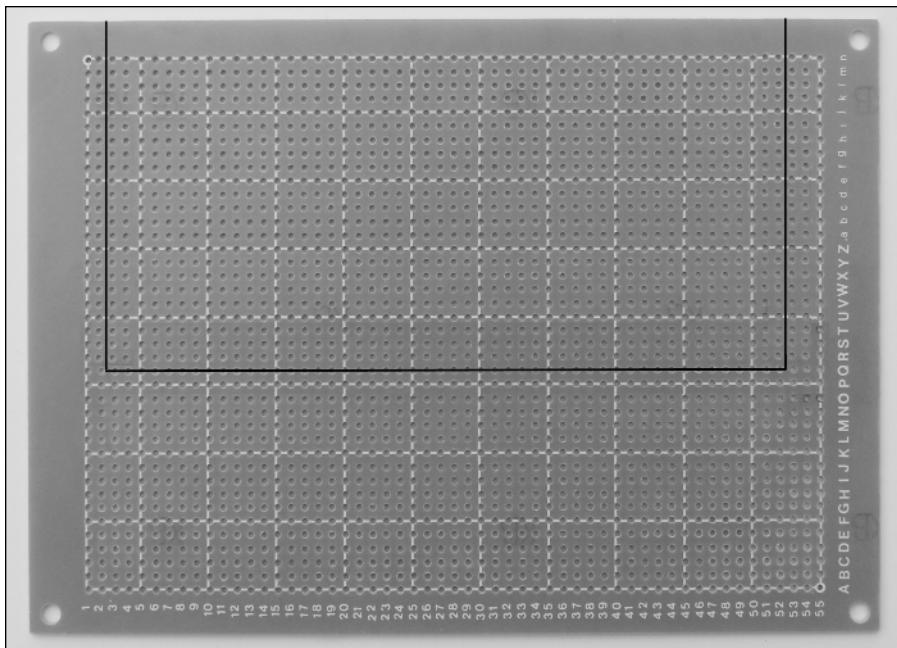

FIGURE 8-26: Where to slice down the raw PC board.
1. Get out your 6-5/16" × 4-1/2" PC board from Radio Shack (catalog #276-147). As mentioned earlier, we're using a Radio Shack board, as it gives us a standard size that ensures your project will match the circuit layouts in this book. (See Figure 8-26.)
2. This board will need to be cut up before we can use it. To slice the PC board, firmly drag your knife along the black lines indicated in Figure 8-26. You can drag it across the holes for the bottom line, but the cuts on the sides need to be *between* holes. (Between hole lines 2 and 3, and 52 and 53.) Err, if at all, by going a little smaller than shown (so the board will fit in the case), but make sure there's enough material so that you can still drill the screw holes in the board, as described later.